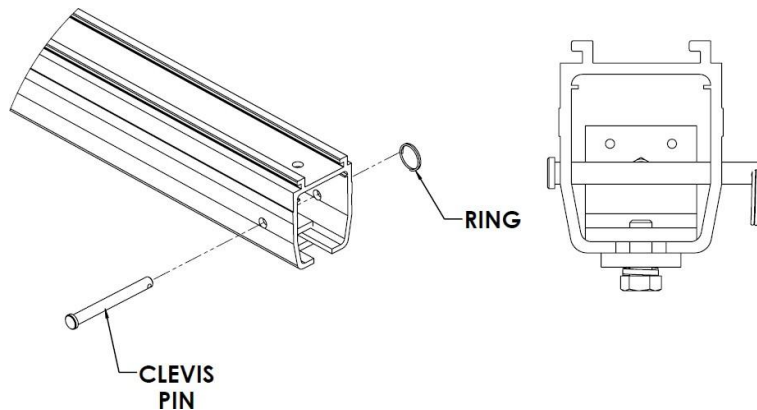

Figure 223: **Clevis Pin and Ring Installed**
- Install the clevis pin and ring as shown in Figure 223.